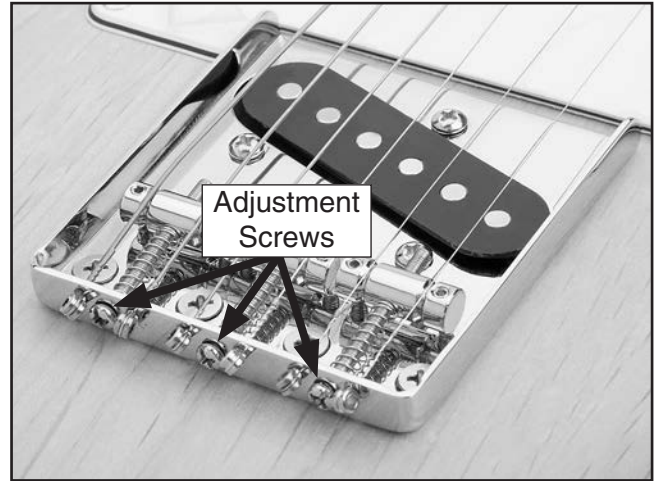

Figure 39. Saddle adjustment screws.
2. Now pluck the string while holding it fretted at the twelfth fret. If this note is sharper than the note played in **Step 1**, move the saddle away from the neck by turning the saddle adjustment screw (**Figure 39**) clockwise. If this note is flat in comparison, move the saddle toward the neck.